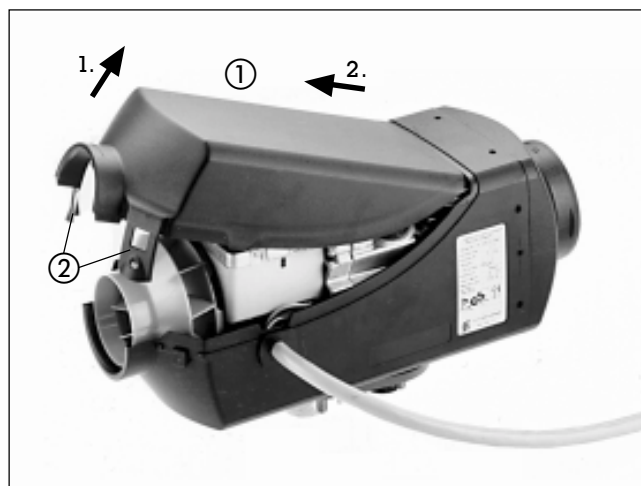

Fig. 1
- Remove the **AIRTRONIC** cover (see fig. 1).
- Remove the *AIRTRONIC* cover (see fig. 1)